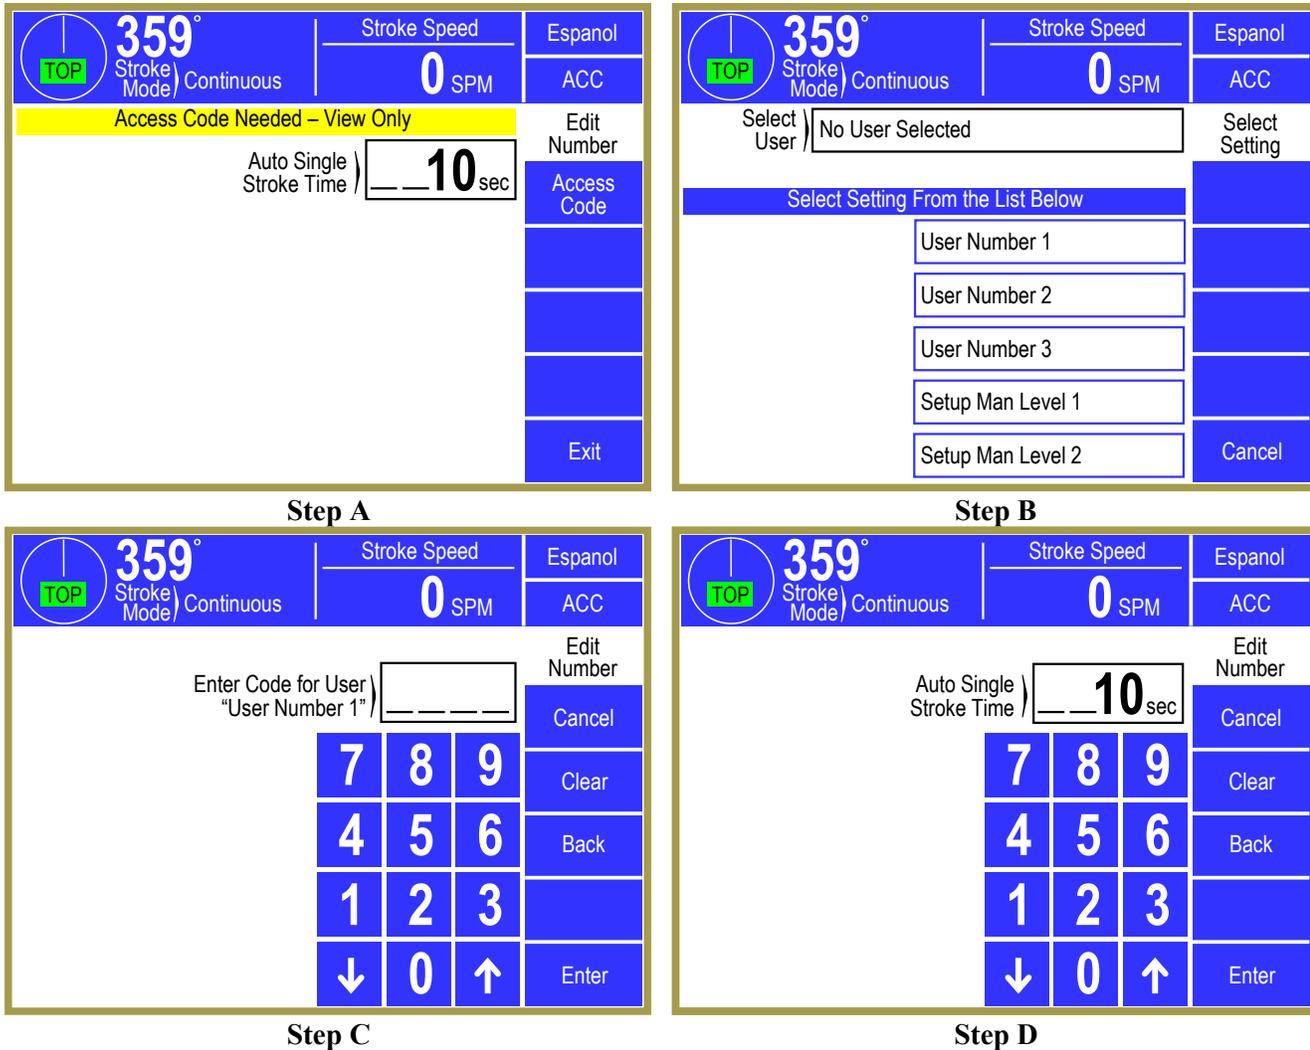

Figure 7: Example Password Entry Sequence
Figure 7 displays a typical password entry sequence. This example shows the steps necessary to change the Auto Single Stroke time. This is typical for password entry for all restricted items.
- Step A:** Select the restricted item. In the example shown in “Step A” of Figure 7 the restricted item is the Auto Single Stroke Time. Once the parameter is selected, if restricted the display will prompt that an access code is required. The user should press the **Access Code** key.
- Step B:** A list of users that have access to this restricted item will appear. In “Step B” of Figure 7, 5 of the 16 possible users have access to this restricted parameter. The system may have several more users, but the 5 users listed on the screen are the only users that have access to Auto Single Stroke time. The user must select his user name (even if there is only one user name displayed).
- Step C:** The display will show the selected user name and request the user password as shown in “Step C” of Figure 7. The user must enter the correct password and then press the **Enter** key.